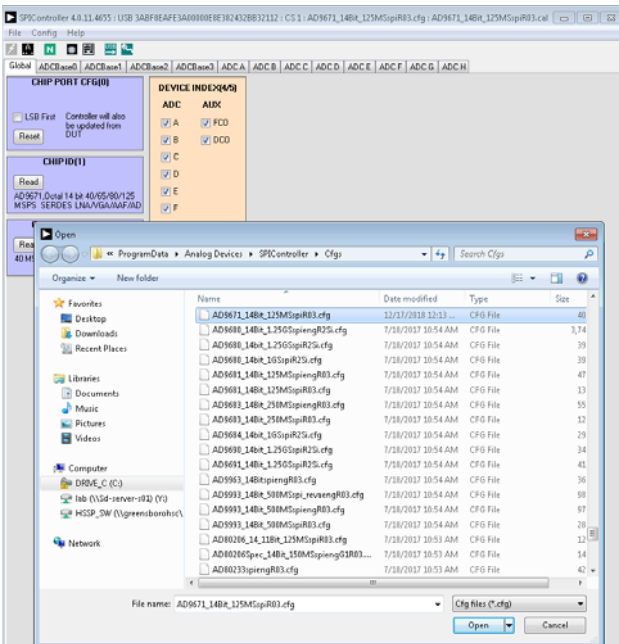

Figure 8. Configuration File Open Dialog Box
8. Start the **SPIController**. Click the **File** menu, and then click **Cfg Open**. A file **Open** dialog box opens. Select the **AD9671** configuration file, **AD9671\_14bit\_125MSspiR03.cfg** (see Figure 8).